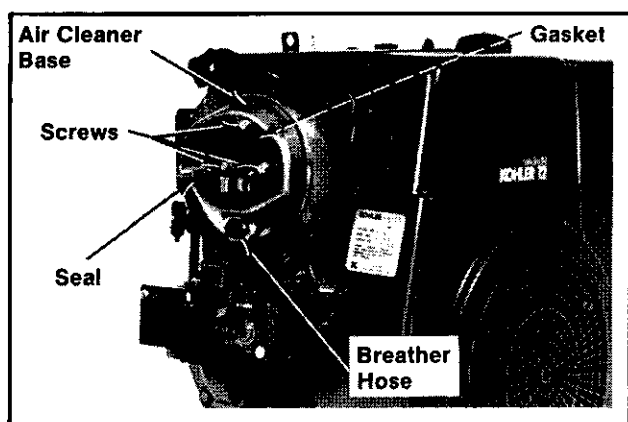

Figure 10B-3. Removing Air Cleaner Base.
3. Remove the three screws, air cleaner base, gasket, and breather hose. Refer to Figure 10B-3.